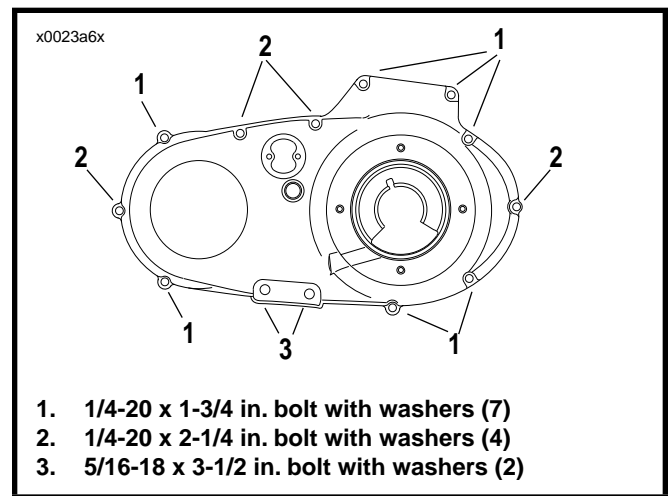

Figure 6-4. Install Primary Cover Bolts
3. See Figure 6-4. Install primary cover and gasket onto left crankcase half using mounting bolts. Tighten bolts to 80-110 **in-lbs** (9.0-12.4 Nm).